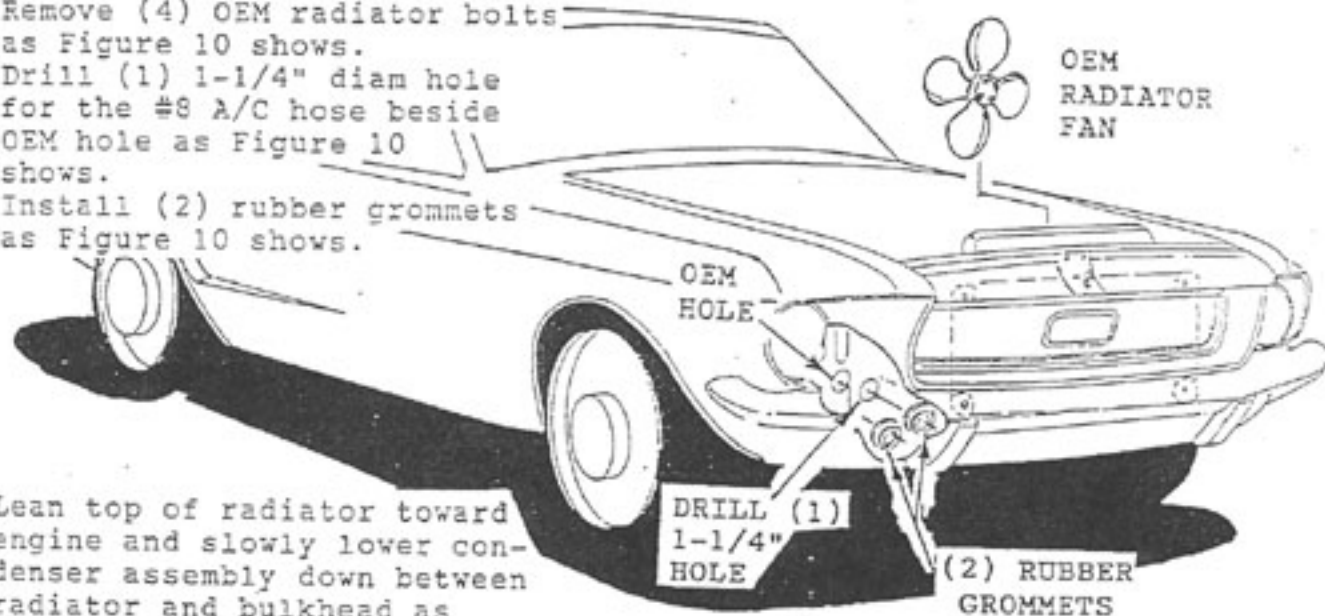

FIGURE 10
1. Remove OEM radiator fan as Figure 10 shows.
2. Remove (4) OEM radiator bolts as Figure 10 shows.
3. Drill (1) 1-1/4" diam hole for the #8 A/C hose beside OEM hole as Figure 10 shows.
4. Install (2) rubber grommets as Figure 10 shows.